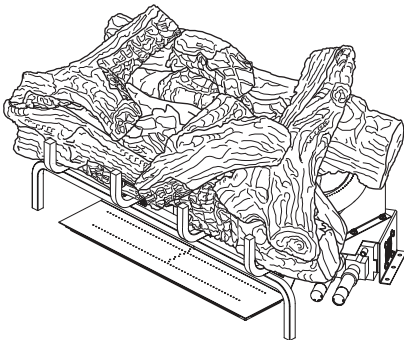

Figure 36- Final Assembly
8. Match the round hole on the bottom of the center crossover log (#8) with the metal pin on the top of the right crossover log. Rest the front of the center crossover log on top of the front right log and against the grate. See Figure 36, page 21 for final assembly.